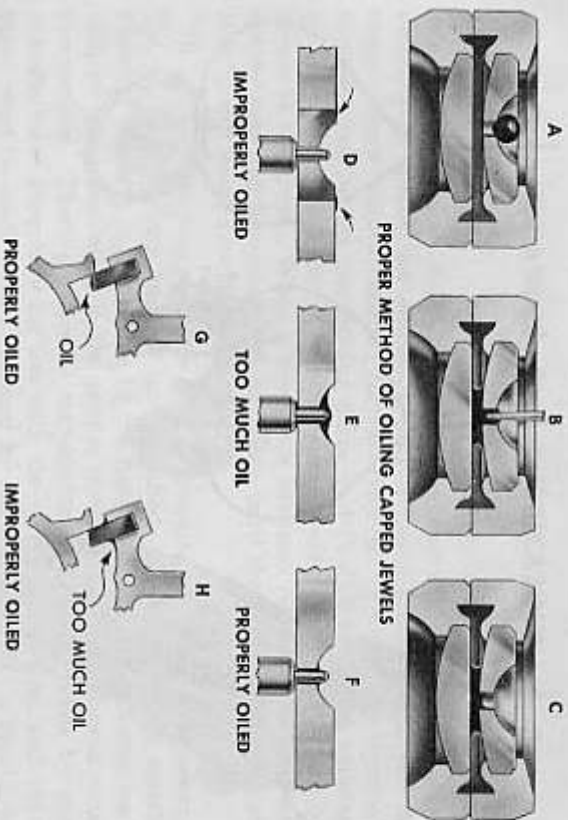

Figure 24 — Proper and Improper Oiling
b. **Oiling Capped Jewels.** To place oil in a capped jewel, a small drop should be placed on the oiler and fed into the space between the jewel and the end stone with a fine pointed wire or broach smaller than the jewel hole. The size of the oil bubble should then be examined and increased to its proper proportions by adding a little at a time (fig. 24).
c. **Proper Method of Oiling.** Figure 24 shows a drop of oil after it has been placed in the jewel cup. During this operation care should be taken not to strike the brass setting with the oiler as it may cause the oil to run away from the bearing. B, figure 24, shows the oil being pushed through the jewel hole to the end stone by a fine wire or broach which must be smaller in diameter than the jewel hole. C, figure 24, shows oil in place. Note the quantity of oil. There is sufficient oil to lubricate the bearing, but not so much that the oil will contact the settings. Overoiling a bearing is as harmful as underoiling.
d. **Oiling Train Jewels.** After the movement has been assembled, oil should be placed in each of the train jewels or bushings. In oiling, the oiler should touch the pivot and the bottom of the oil cup simultaneously, so that the oil flows through the jewel hole to the pivot shoulder immediately. When removing the oiler from the oil cup, lift it straight up so that any possibility of leaving a track of oil across the top surface of the jewel is eliminated. This condition would tend to draw oil out of the cup onto the setting as shown in D, figure 24. When oiling the center wheel arbor so that the cannon pinion will be properly lubricated during setting. To avoid putting too much oil on the center wheel arbor, apply with an oil-saturated piece of pegwood. E, figure 24, shows how excessive oiling will cause the oil to flow through, and adhere to, arbors and pinions and will travel through the movement. If oil gets on the hairspring, it causes erratic timing. F, figure 24, shows a properly oiled pivot. Oil has run directly through the jewel hole to pivot shoulder, retaining the proper amount of oil on the bearing surfaces.
e. **Oiling Pallet Stones.** An approved method of oiling the pallet stones is to apply the oil to three teeth of the escape wheel rather than to the pallet stones themselves. As the escape wheel rotates, an even coverage of oil will be distributed upon all the teeth of the wheel and to the face of the pallet stones (fig. 24).